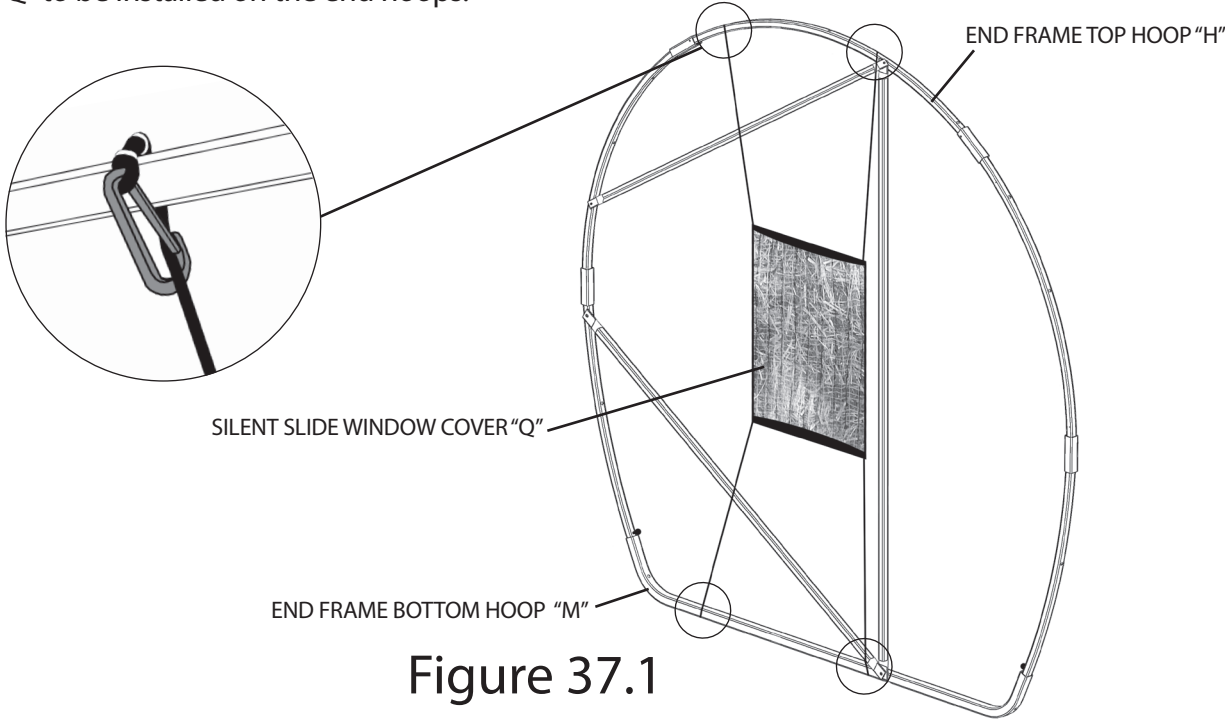

Figure 37.1
STEP 29: Locate (2) SILENT SLIDE WINDOW COVERS "Q" to be installed for the shooting window openings located on each end hoop . Starting at the top, attach each clip to the END FRAME TOP HOOP "H" , then repeat the process for the bottom clips, attaching to the END FRAME BOTTOM HOOP "M" , as illustrated in Figure 37.1. Perform this step for both SILENT SLIDE WINDOW COVERS "Q" to be installed on the end hoops.